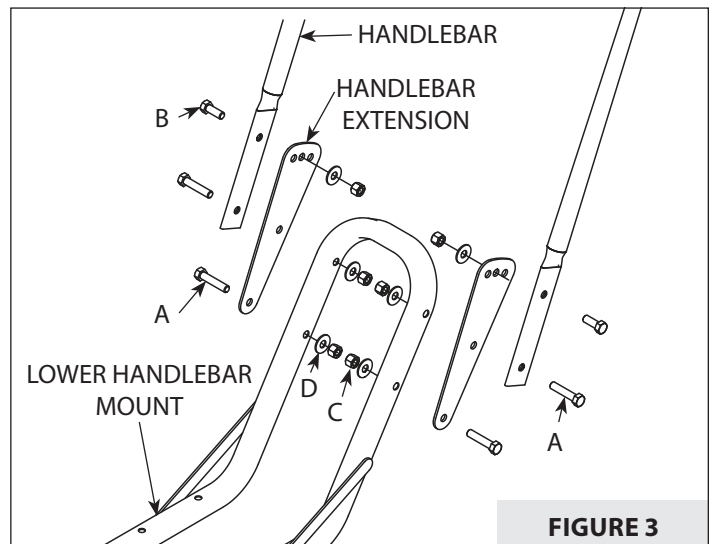

FIGURE 3
6. Locate the handlebar extensions and place them on the outside of the lower handlebar mount. Be sure to line up the handlebar extension pieces with the lower handlebar mount as shown on the decal located on the lower handlebar mount next to the mounting location. **SEE FIGURE 3.**
7. Insert one (A) M10 x 45 mm bolt into each of the lower holes in the side of the extension pieces. The bolts will pass through the lower hole of the lower handlebar mount. Place a (D) M10 flat washer and a (C) M10 nylock nut onto the end of each bolt and hand-tighten. **SEE FIGURE 3.**
8. Assemble the handlebar to the **outside** of the handlebar extension (side opposite the lower handlebar mount). Insert one (A) M10 x 45 mm bolt into each of the lower holes in the handlebar and through the **middle** hole on the handlebar extension. Place a (D) M10 flat washer and a (C) M10 nylock nut onto the end of each bolt and hand-tighten. **SEE FIGURE 3.**
9. Insert one (B) M10 x 25 mm bolt into each top hole on the handlebar and through the middle hole on the handlebar extension. Place a (D) M10 flat washer and a (C) M10 nylock nut onto the end of each bolt and hand-tighten. **SEE FIGURE 3.**
Handlebar height can be adjusted in two ways to accommodate a total of four possible user heights. **SEE FIGURE 3** (previous page).